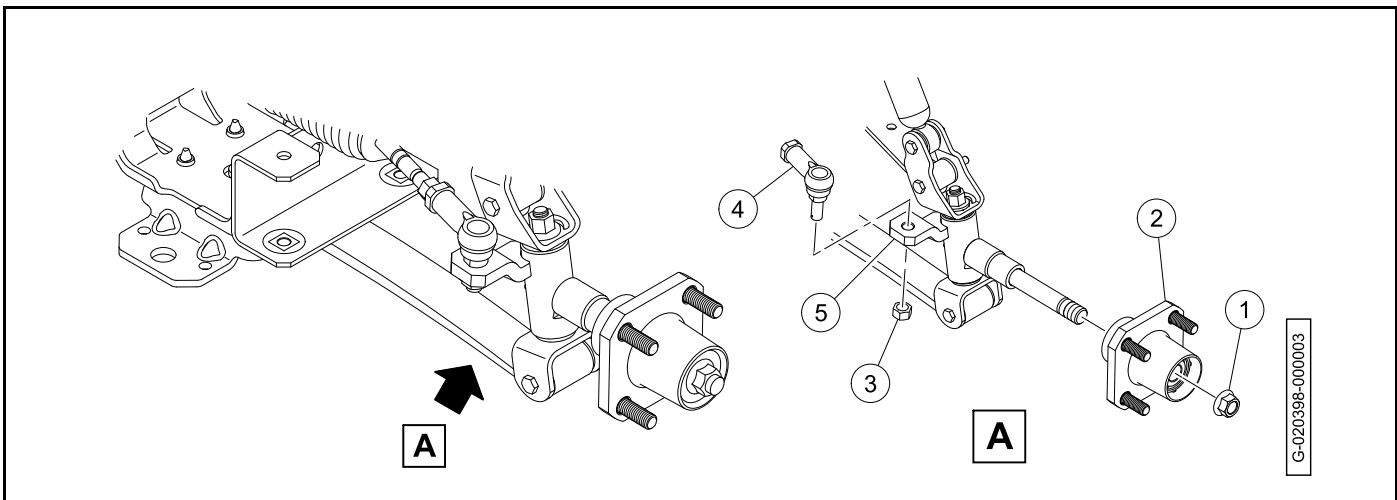

Figure 7-16
4. Remove and discard the lock nut (1) (**Figure 7-16**).